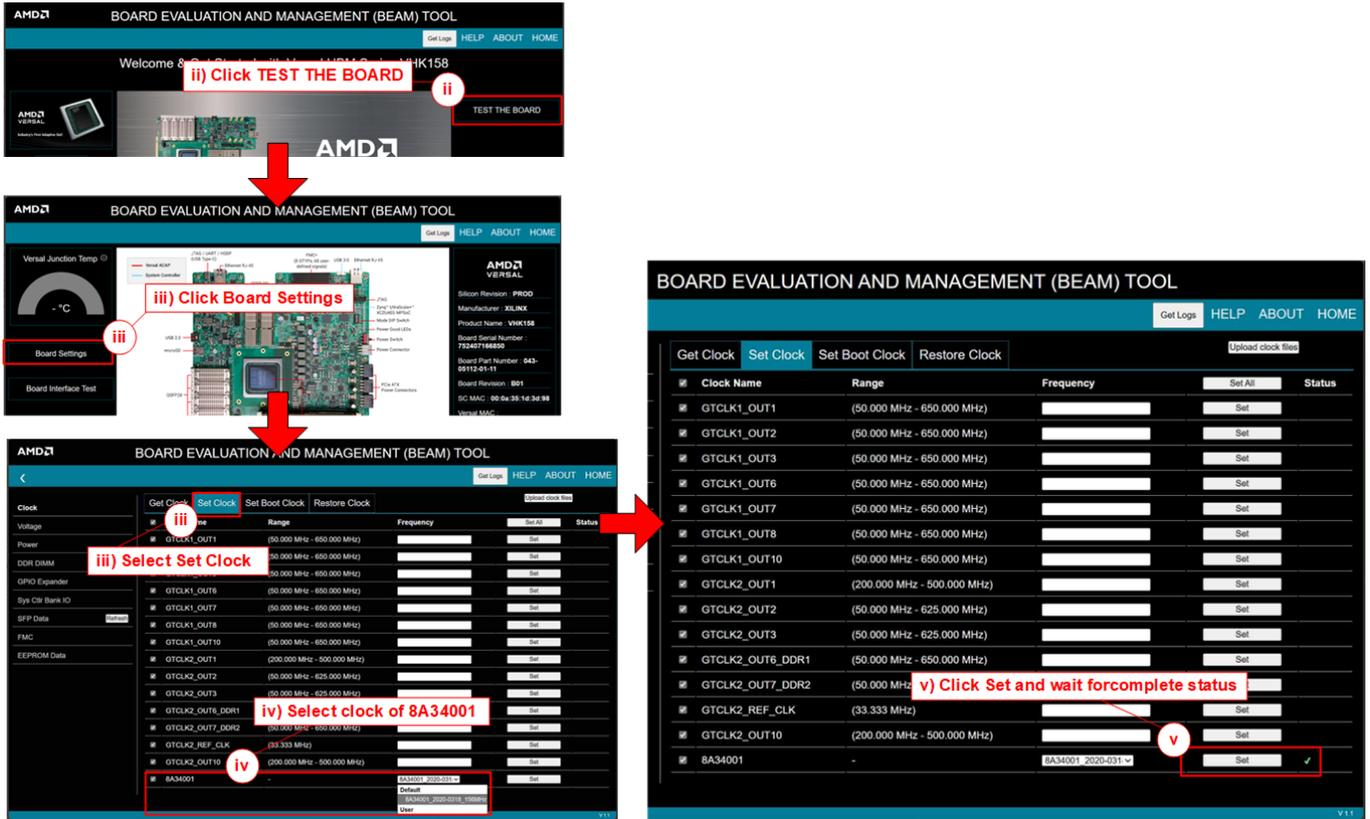

Figure 12 Programmable Clock Configuration for VHK158
- ii) In the BEAM tool, click “TEST THE BOARD” as shown Figure 12.